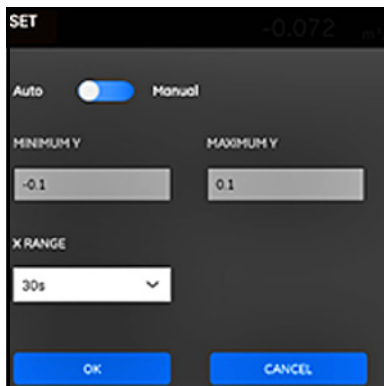

Figure 110: Graph Parameters Menu
- When in **GRAPH** mode, click the **SETTING** button just above the graph to open the **SET Y AXIS** menu shown in *Figure 110* below.